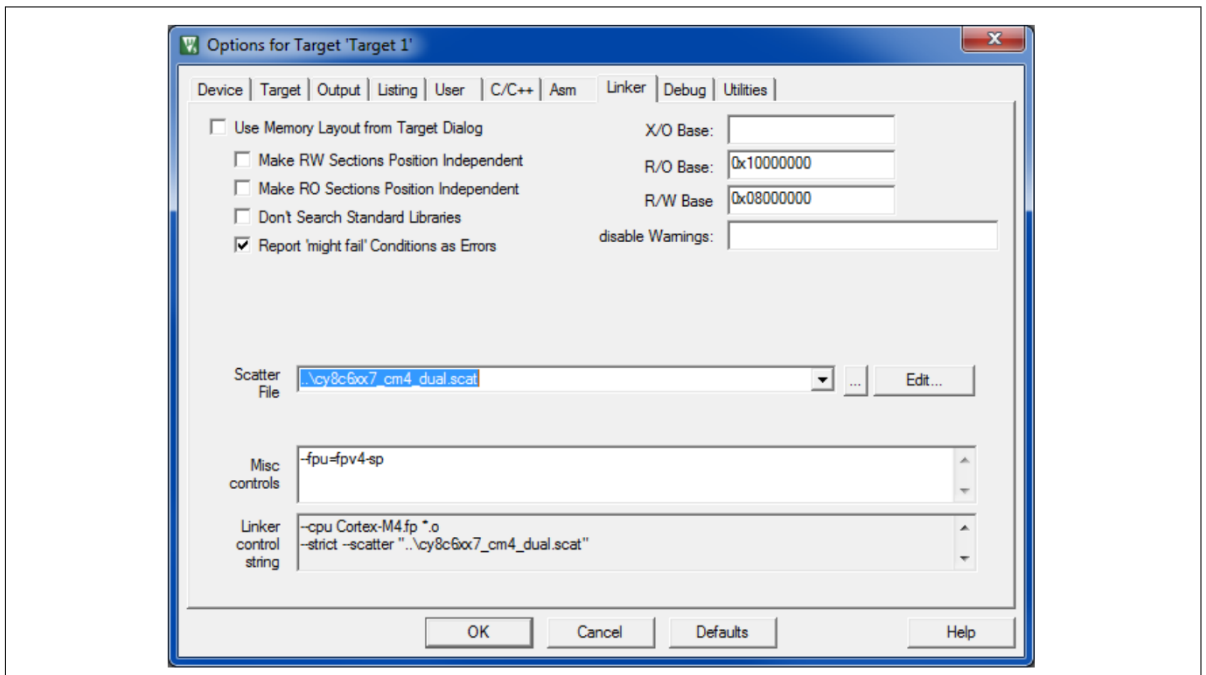

Figure 26 Linker options for CM4 project
- In the **Options** dialog, **Linker** tab, select the “`cm4_dual1`” scatter file, as Figure 26 shows. The CM4 project will contain code for both CPUs. Add `--fpu=fpv4-sp` to **Misc Controls**